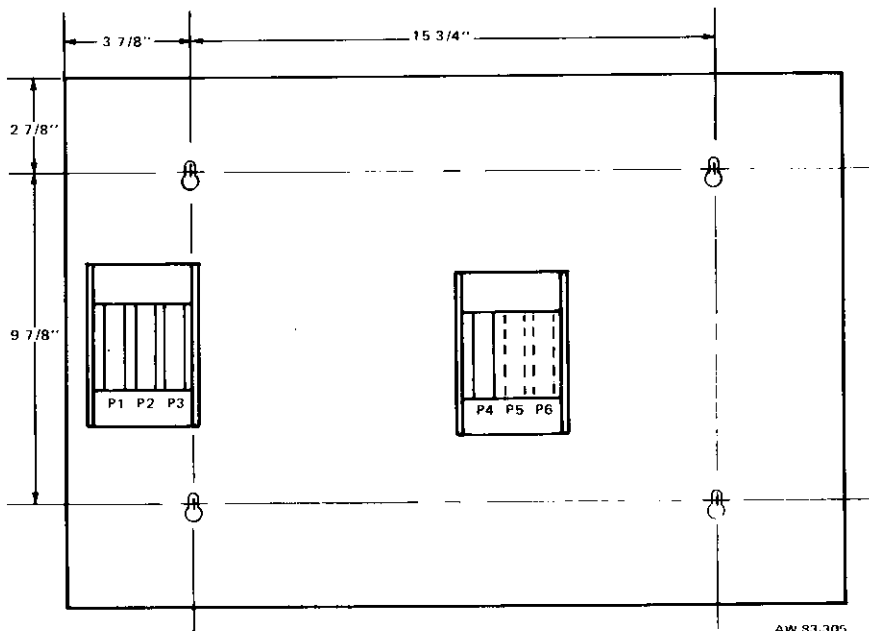

Figure 2: Mounting Hole Locations
4.03 Mount the KSU on the wall or MDF back-board with four bolts or lag screws. Dimensions for locating the mounting holes are shown in Figure 2. Mark the mounting hole centers, drill the pilot holes, and then insert the screws. Partially tighten each screw. Slip the KSU over the screws. Then tighten each screw.